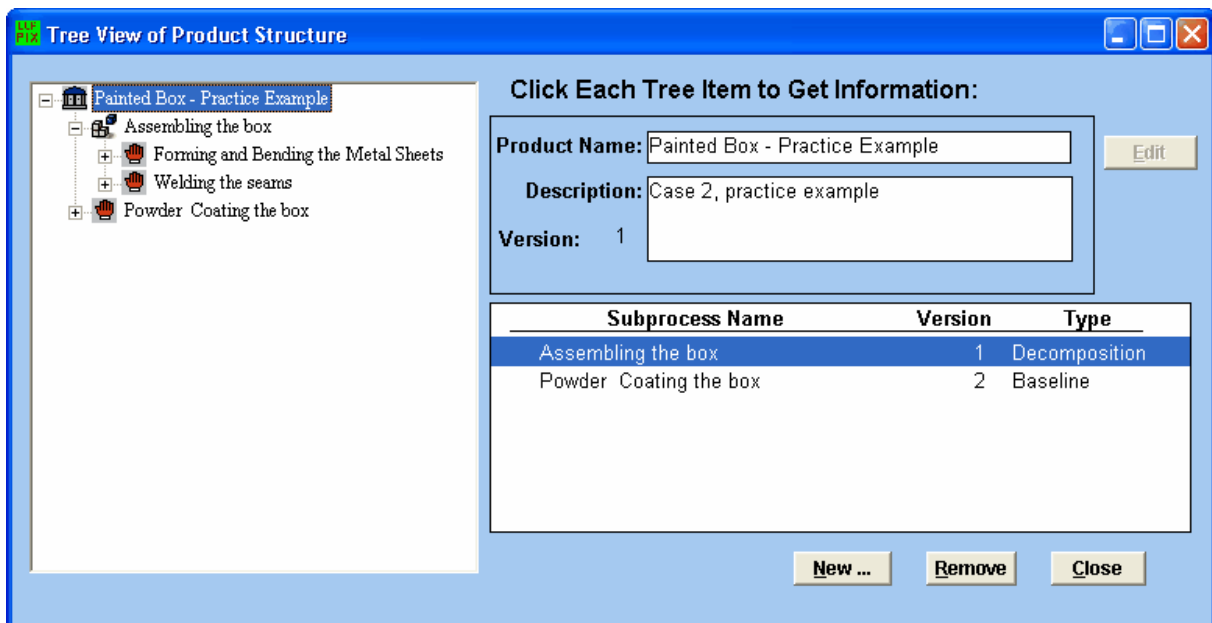

Figure 37: Tree View of the completed Process structure of the Painted Box - Practice
- Before a new process can be added, a dialog box will come up asking "Will this new process be decomposed into other processes?" As the process "Assembling the Box" decomposes into "cutting the metal sheets," and "welding the seams" (see Figure 37), choose **Yes** and it will launch a window called *Create Sub process* which is the name for the 1st level processes in LCAPIX Module.
11. We have now finished entering the Process Hierarchy and hence choose **OK** in the window which should look similar to Figure 37.